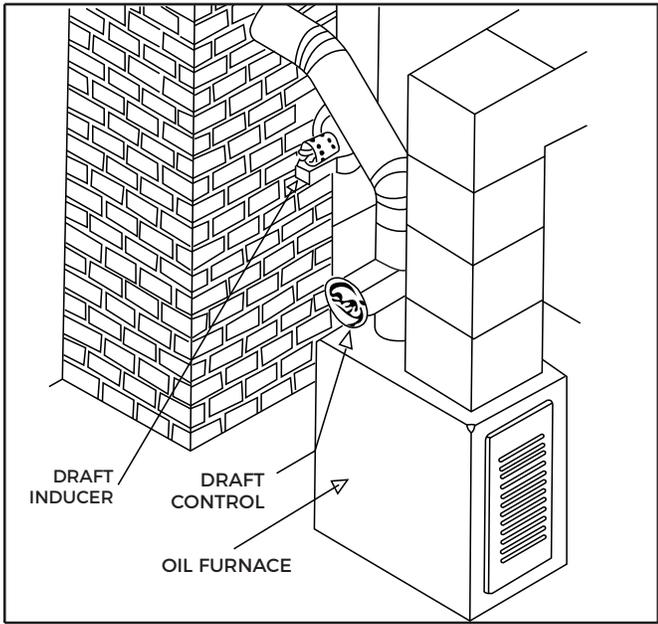

Figure 3
Note: For typical installation diagrams, see Figures 3, 4, and 5.
- F. A Field barometric draft control should be installed on all oil-fired and gas-fired appliances not equipped with a draft hood. The barometric draft control is used to fine tune the desired draft at the appliance. Some type of draft control device **MUST** be used on all heating systems with a draft inducer installed. (See Figure 3)